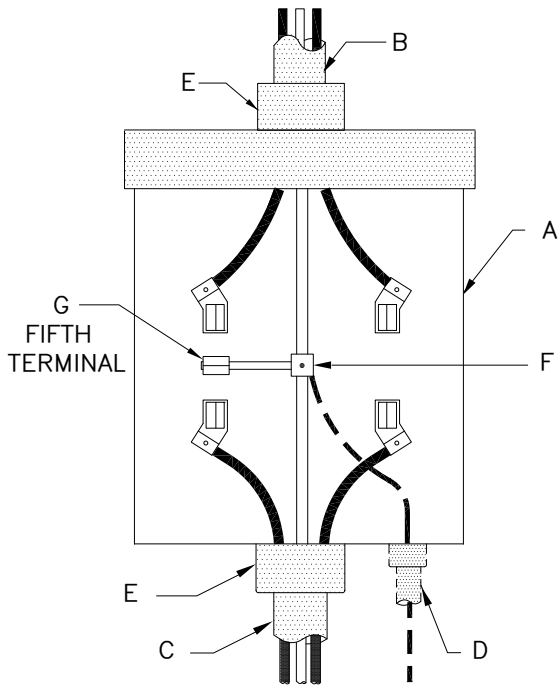

FIGURE 3A
- SINGLE POSITION 1-PHASE, 3-WIRE 120/208V SERVICE METER (SEE FIGURES 3A AND 3B)